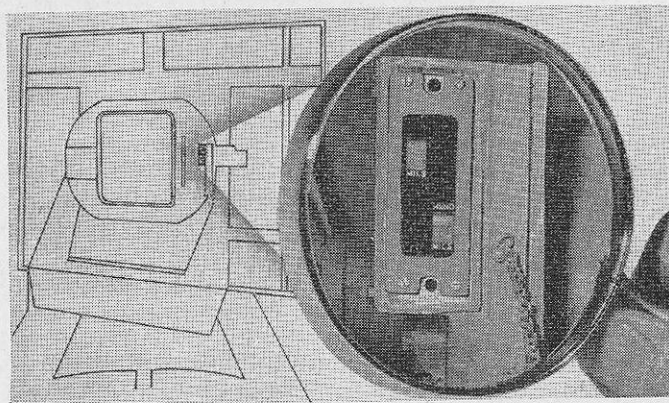
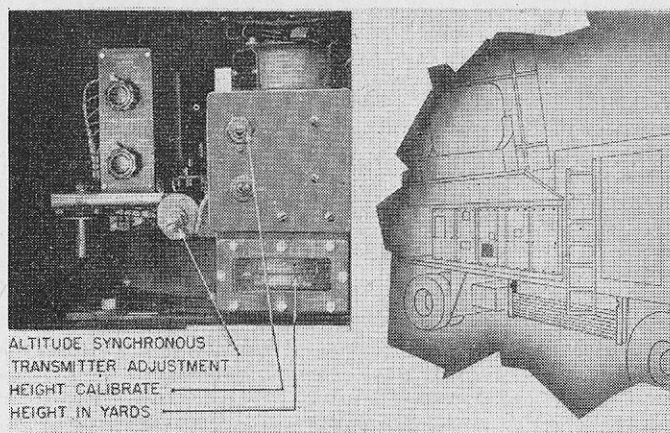
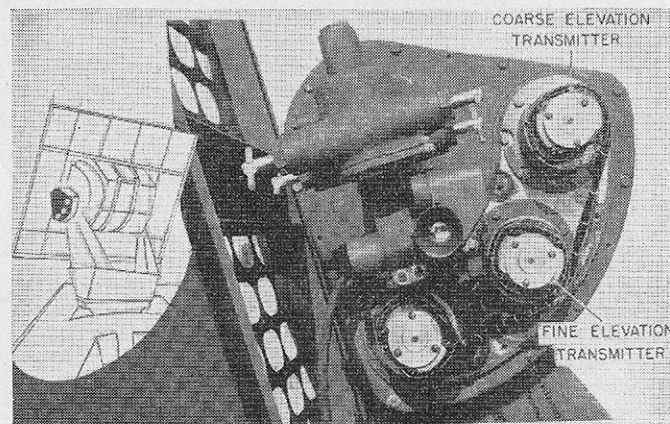

FIGURE 45.—Angular height scale on pedestal.
FIGURE 46.—Range converter.
FIGURE 48.—Angular height synchronous transmitters.
b. Operate the ELEVATION HANDWHEEL (fig. 14) to set a reading of 533.3 mils on the angular height dials on the right trunnion of the antenna pedestal. These dials are shown in figure 45.
c. The ALTITUDE DIAL on the RANGE CONVERTER (fig. 45) should now read 7,500 yards. If there is any variation it should be corrected by means of the HEIGHT CALIBRATE screw adjustment on the panel of the range converter (fig. 46).
(4) Loosen the coarse and fine synchronous transmitter cases on the pedestal trunnion nearest the seat on the pedestal (fig. 48). Rotate the transmitters until the dials on the director indicate the same elevation as the scale (fig. 45) on the right trunnion arm of the antenna.
(5) Check, and if necessary reset the dials on the **ELEVATION (angular height) CONTROL UNIT** (fig. 14) to agree with the reading of the scale (fig. 45).
(4) Same as step (4), *a* above; the receivers are located at the tracker.
(5) Same as step (5), *a* above.
(6) Same as step (6), *a* above.
(7) Set the **DATA FLOW SWITCH** (fig. 12) on the **RANGE CONTROL UNIT** at M9, ON. With the computer of the director set for **TRACKER TEST**, the reading on the **QUADRANT ELEVATION** dial at the computer should agree with the reading on the angular height scale (fig. 45) on the antenna trunnion. If the readings do not agree, refer to TM 11-1127 for adjustment procedure on the elevation potentiometer.
b. Turn the synchronization adjustment (fig. 46) to rotate the synchronous transmitter until the altitude correspond-